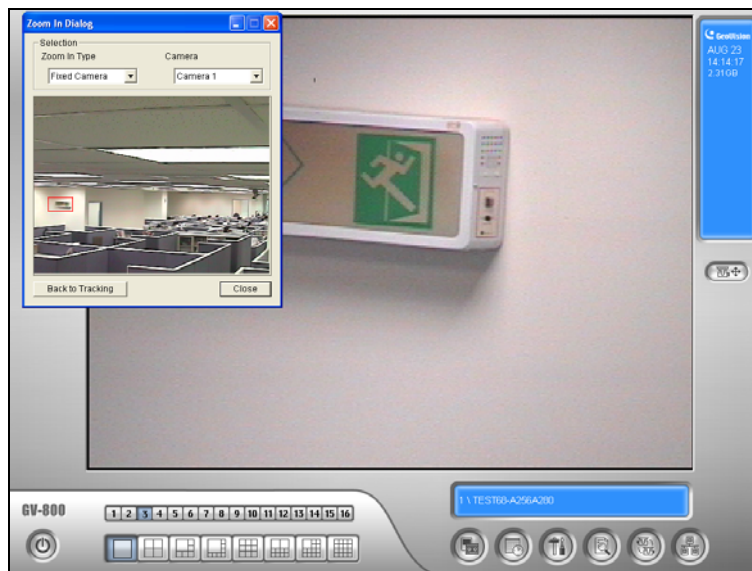

Figure 3-8 The outlined area in the Dialog window is magnified on the main screen
1. Click the **Configure** button (No. 14, Figure 1-2), point to **Video Analysis**, select **Object Tracking Application**, and click **Object Tracking View** to open the Zoom in Dialog window, overlapping on the main screen (Figure 3-8).